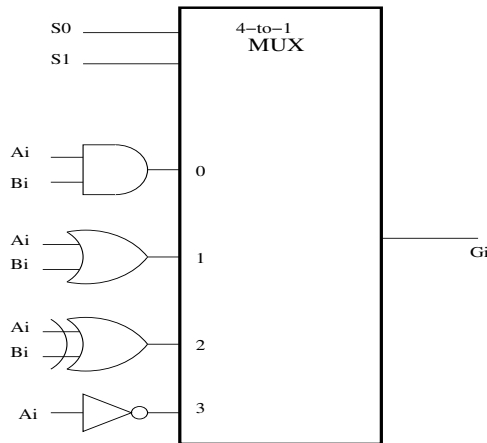

Figure 3: One Stage of Logic Circuit.
be obtained by using a multiplexer and four gates. Each of the four logic operations is generated through a gate that performs the required logic. The outputs of the gates are applied to the inputs of the multiplexer with two selection variables S_0 and S_1 . These choose one of the data inputs of the multiplexer and direct its value to the output. Figure 3 shows a one stage possible implementation of the Logic Circuit. To design a one stage logic unit you will need to do the following:
- Implement the circuit shown in Figure 3 using VHDL in a separate file.